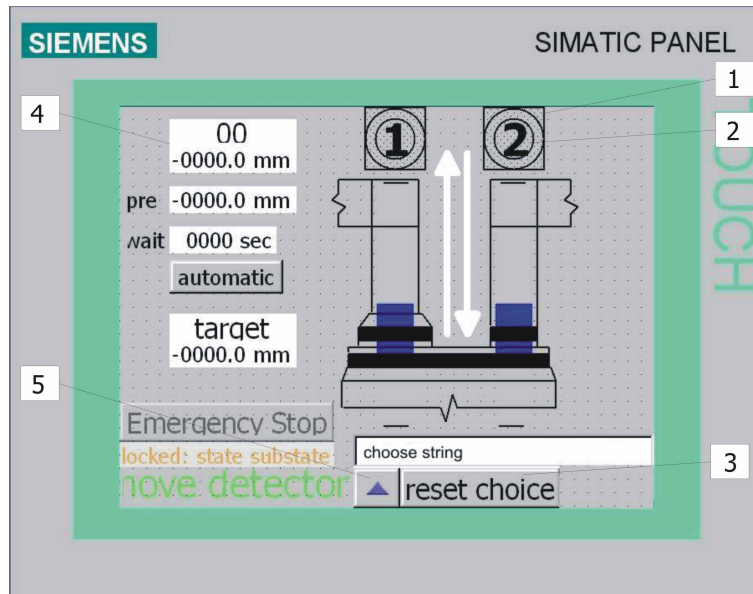

Fig 3.3. The Choose Motor Screen. Only one cable arm can be selected
To run a motor or a motor program, the motor controller has to be enabled first. Select the program “Enable Motor Controller” with the arrow up/down buttons (11) and press the start button (12). The motor that was selected as described in section 3.3 is now enabled. The outer circle of the string selector (2) (see fig. 3.3) will then turn blue as well.